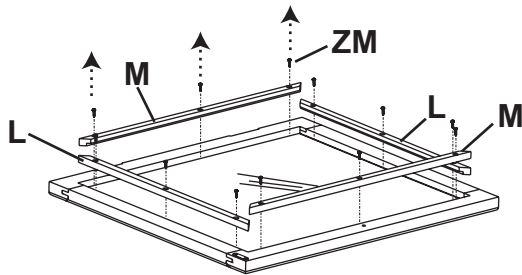

Fig. 1
1. To finish the Glass Door Frame (F), you must first remove the glass. Remove the door from its hinges and lay it face-down on a clean, protected surface. Remove the #6 x 3/4" Brass Flat Head Screws (ZM), the Door Glass Support Stiles (M), Door Glass Support Rails (L) and set aside. Carefully lift the Door Glass (I) and put it safely away. Finish the door frame, stiles and rails and, after the finish dries, replace the glass and attach the Door Glass Support Rails (L) and Door Glass Support Stiles (M) with #6 x 3/4" Brass Flat Head Screws (ZM). Repeat the step for the other door. Attach the doors to the base unit. See Figures 1, 1a and 1b.